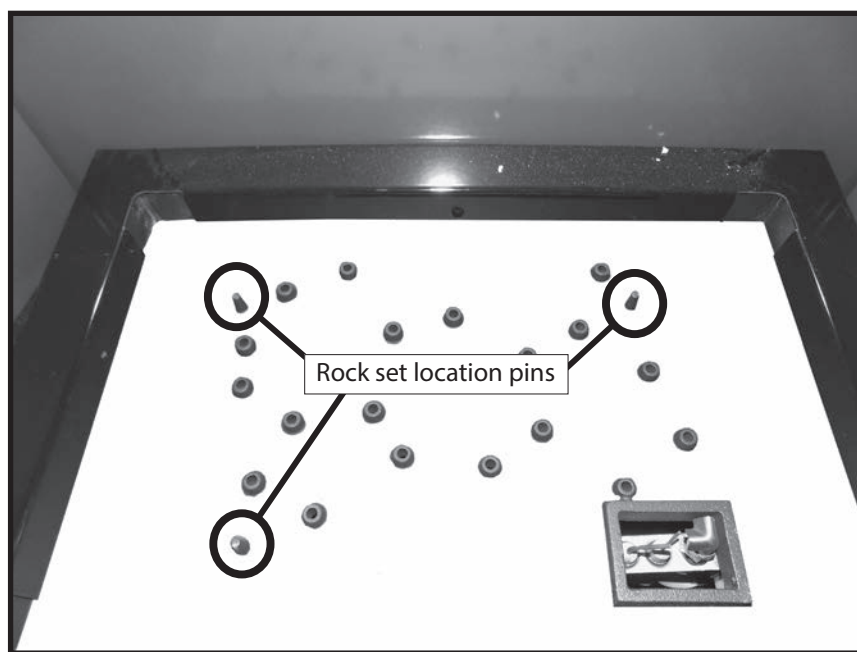

Figure 26: Location pins for rock set.
27. Gently place pebble assembly onto sand base aligning 3 holes in the bottom of the rock set to the 3 pins located on the burner tray (Figure 26).